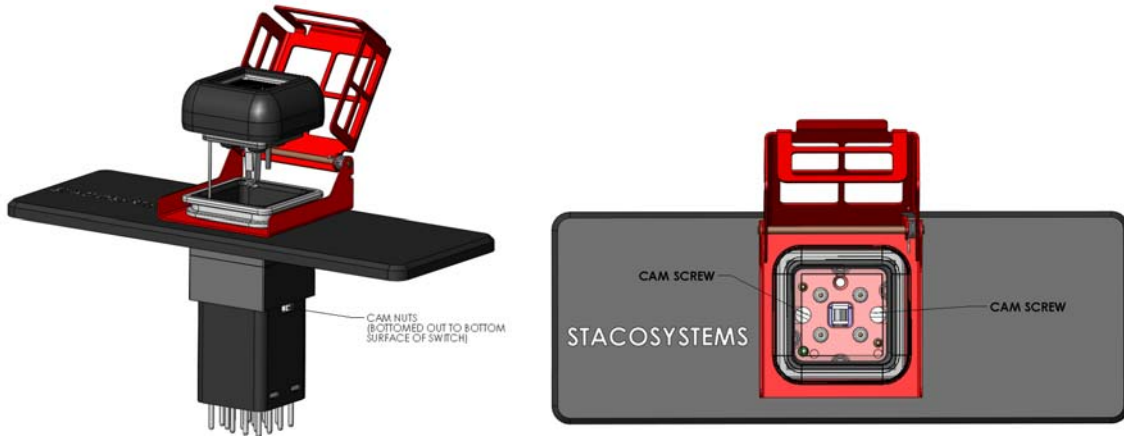
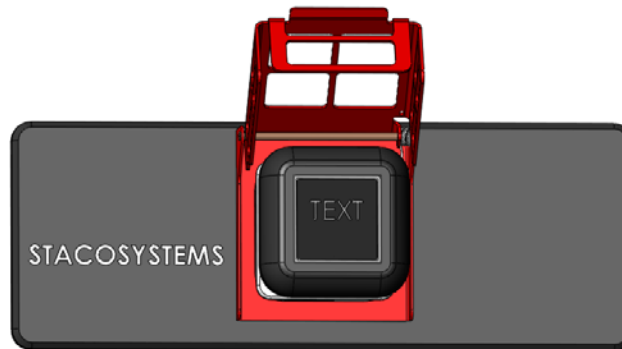

FIGURE 9 – SWITCH INSTALLED INTO PANEL (NOT TIGHTENED)
FIGURE 10 –TEXT ORIENTATION OF PUSHBUTTON.
5. AFTER INSTALLED INTO PANEL, ADD NECESSARY MOUNTING SLEEVES AND SPACERS ONTO BACK SIDE OF PANEL AROUND SWITCH BODY. SEE FIGURE 9 (ONE SLEEVE AND ONE SPACER ARE SHOWN AS AN EXAMPLE. VARIOUS COMBINATIONS ARE TO BE USED IN ORDER TO OBTAIN A PROPER FIT INTO CUSTOMER SPECIFIC PANELS). TO ENSURE PROPER COMBINATION OF SPACERS AND SLEEVES, TURN CAM SCREWS COUNERCLOCKWISE UNTIL BOTH CAM NUTS ARE FULLY BOTTOMED OUT IN SWITCH CUTOUTS. FIGURE 10 NOTES TEXT ORIENTATION.